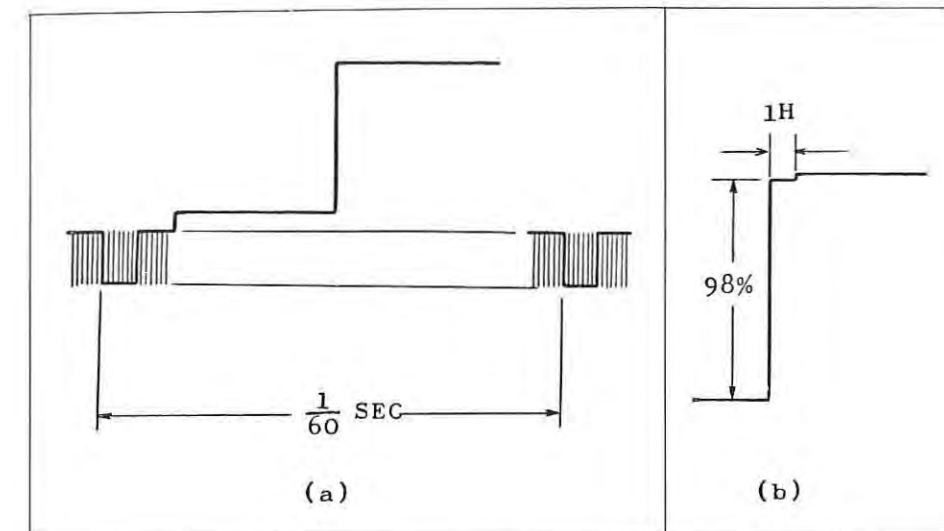

Figure 5. Rectangular waveform response to the vertical-deflection axis. (a) Applied video-signal waveform. (b) Response.
6. Rectangular waveform response to the vertical deflection axis. When a rectangular waveform video-signal with a synchronizing component, shown in Figure 5(a), was applied to the system input, a voltage response shown in Figure 5(b) appeared across a memory capacitor.